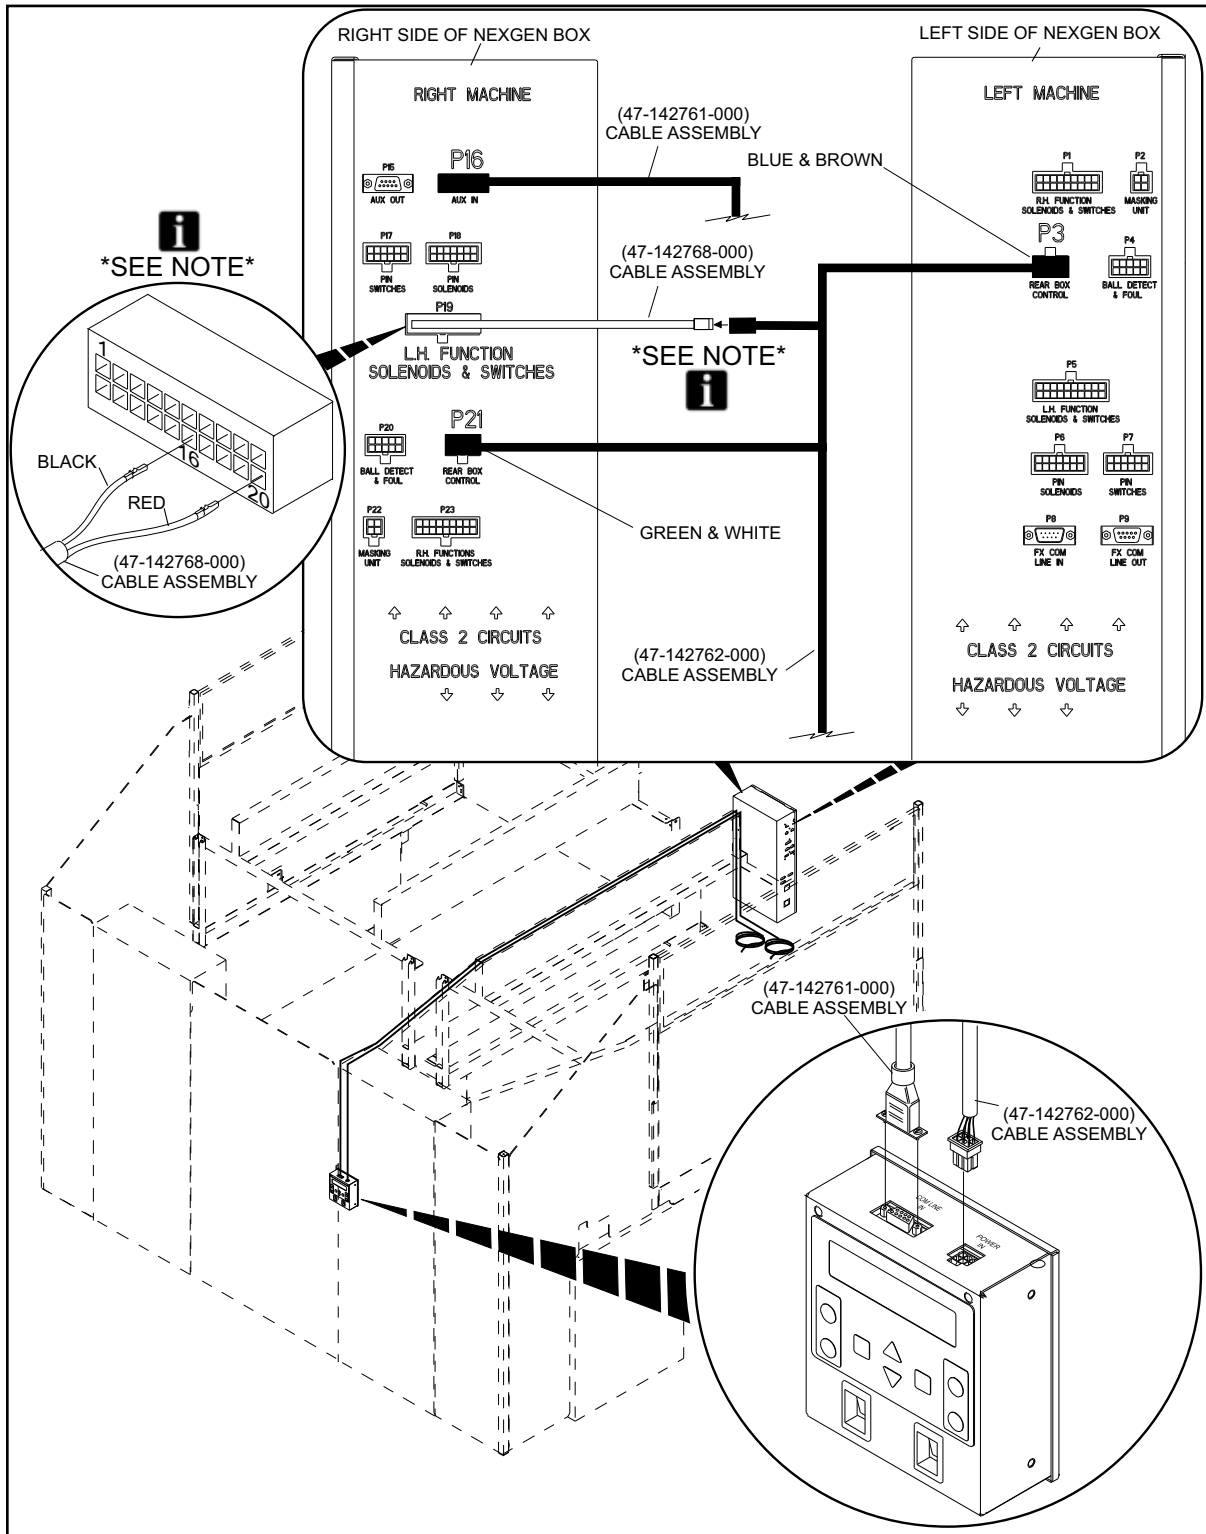

Figure 8
3. Connect cable assembly (P/N 47-142761-000) to “P16” on the Nexgen box and “COMLINE IN” on the remote display. Refer to Figure 8.
i **NOTE:** Check for existing Remote Display Power pigtail on the LH Function Solenoids & Switches cable (P/N 47-142790-000). If the pigtail is present, use it to connect the Black/Red power cable assembly to the P16 and P20 connections. Refer to figures 8 and 9. If the pigtail is present, skip step 4.
4. Connect pins from cable assembly (P/N 47-142768-000) to existing “P19” connector. Refer to Figure 8. Skip this step if a pigtail is already connected at pins 16 and 20.
5. Connect multi connector end of cable assembly (P/N 47-142762-000) to “P3”, “P21” and cable assembly (P/N 47-142768-000) on the Nexgen box. Refer to Figure 8.
(1) REMOTE DISPLAY POWER PIGTAIL
6. Connect single connector end of cable assembly (P/N 47-142762-000) to “POWER IN” on the remote Display box. Refer to Figure 8.